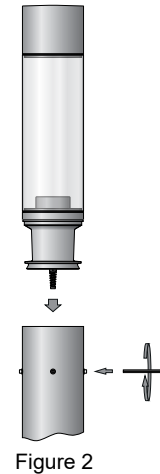

Figure 2
- Route supply wiring through the mounting base and install pole (Figure 1, Figure 2) Use special tool provided to unlock the access door lock and remove access door.